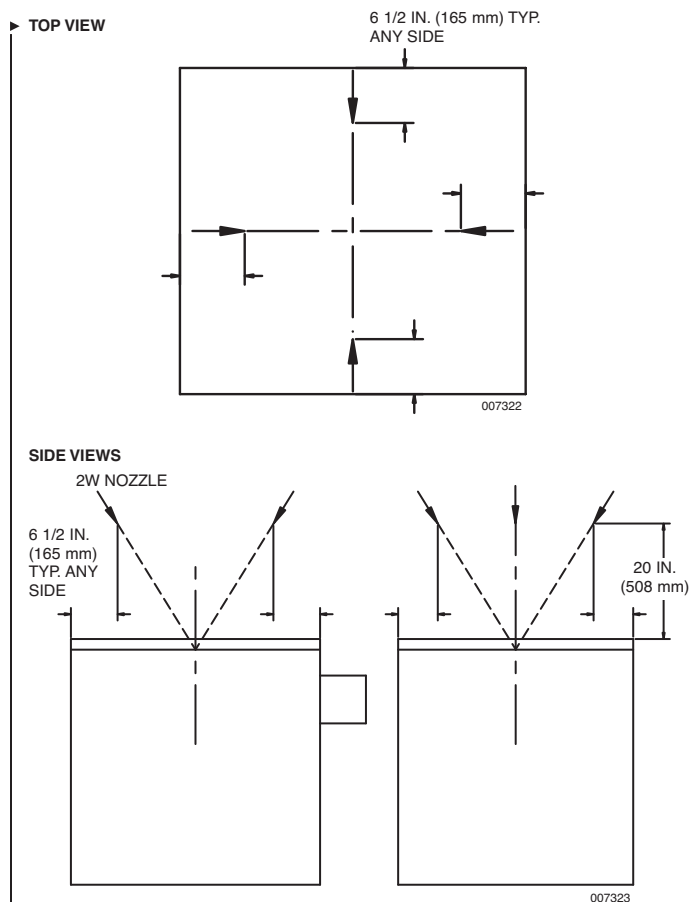

FIGURE 67
- **Nozzle Quantity/Type:** (1) One 2W nozzle, Part No. 419337.
- **Nozzle Height:** 20 in. (508 mm) above top of converter. See Figure 67.
- **Nozzle Location:** Centered 6 1/2 in. (165 mm) back from any edge of the appliance. See Figure 67.
- **Nozzle Aiming Point:** Aimed at center of opening. See Figure 67.